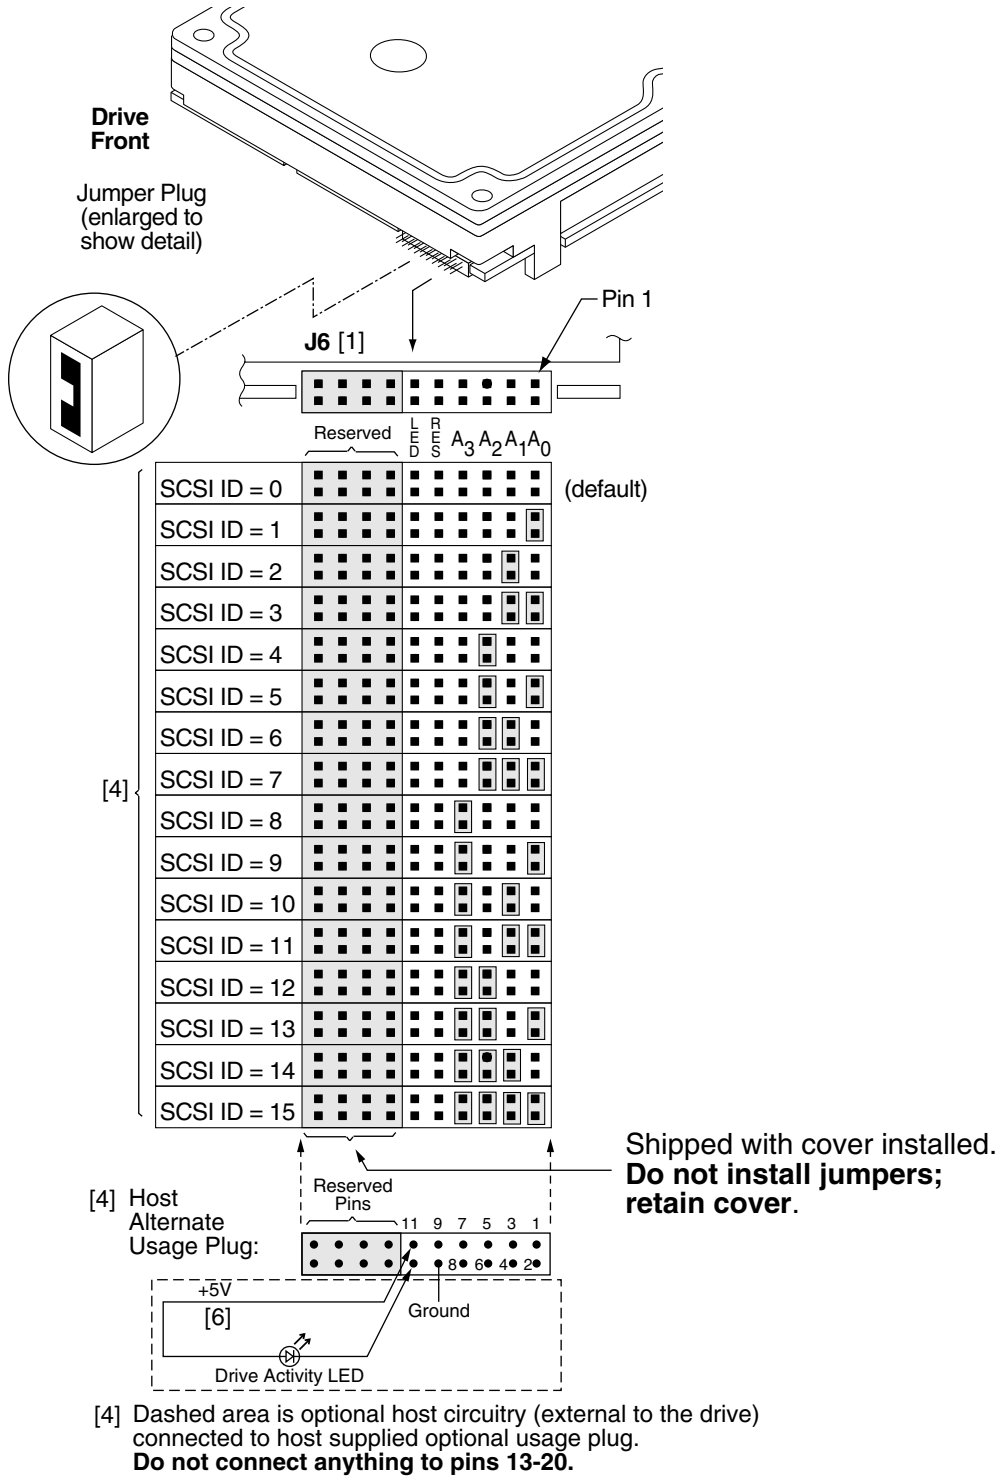
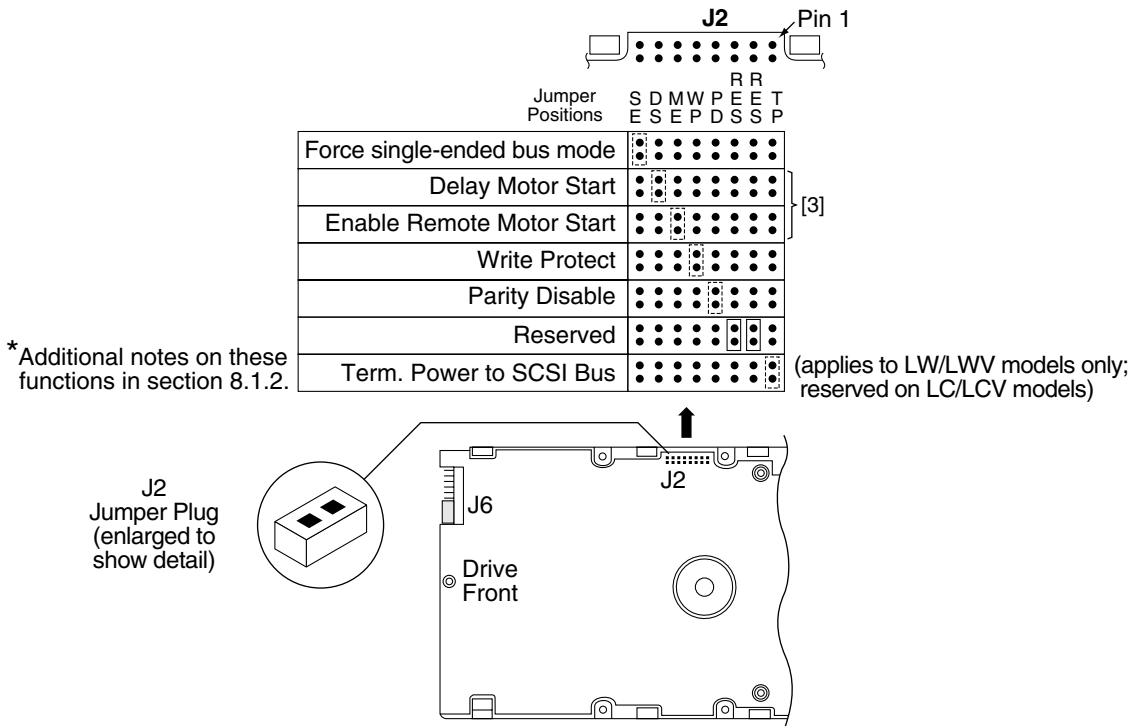

Figure 15. J6 jumper header
Figure 17. J2 option select header
For option jumper locations and definitions refer to Figures 15, 16, and 17. Drive default mode parameters are not normally needed for installation. Refer to Section 9.3.2 for default mode parameters if they are needed.
Figures 15 and 16 show views of the drive ID select jumper connectors. Figure 17 shows the option select jumper connector for all models. Figure 15 shows the drive’s J5-auxiliary jumper connector. Both J5-auxiliary and J6 have pins for selecting drive ID and for connecting the remote LED cable. Only one or the other should be used, although using both at the same time would not damage the drive. The notes following the figures describe the functions of the various jumper positions on the connectors J2, J5-Auxiliary and J6. Suggested part number for the jumpers used on J2 is Molex 52747-0211 (Seagate part number 77679052). A bag with the two jumper plug types is shipped with the standard OEM drives.
8.1.1 Notes for Figures 15, 16, and 17.